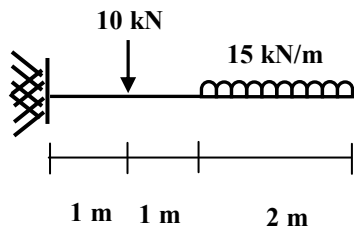

FIGURE-1 Q-3 (a)
- Q.3 (a)** Draw shear force and bending moment diagram for a beam as shown in figure-1. **07**